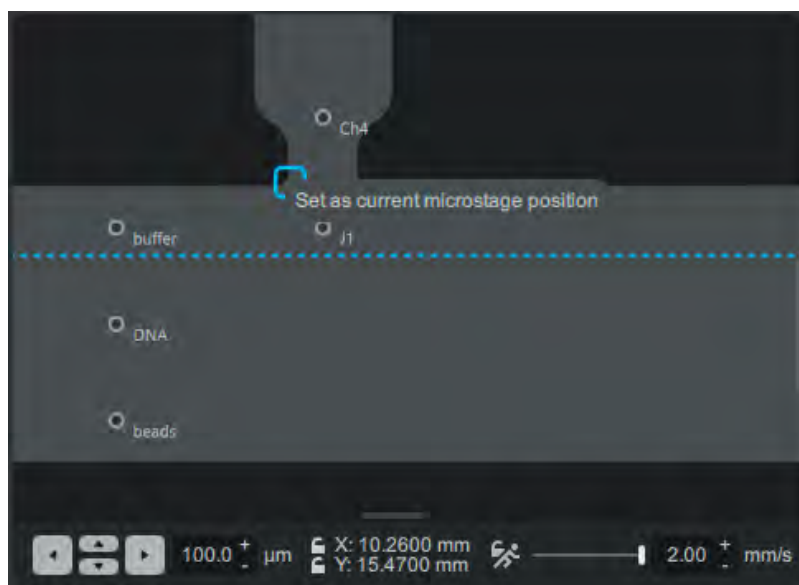

Figure 11.8.2: Set current microstage position dialog.
1. Right click on the corresponding position of the physical flowcell shown in the Bluelake flowcell map (see Figure 11.8.2).